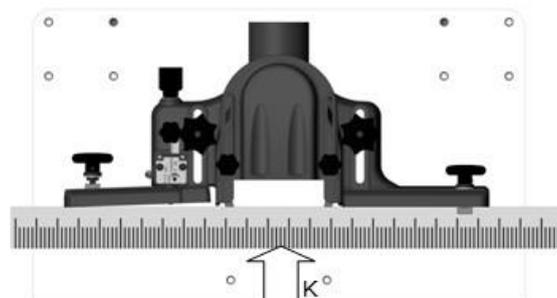

Fig.8
2. Unlock knobs D1, D2 and adjust the fence assembly (A) so it is positioned approximately at midpoint; then secure lock knobs D1, D2.
3. Place a straightedge (H) on the table against the infeed and outfeed fences (F1, F2).
4. Unlock the ram dial lock knob (B)
5. With the ram adjust dial (C) the adjust position of the outfeed fence (G2) while at the same time pressing against the straightedge (H) and attempting to bring both fences (G1, G2) in-line with the straightedge.
**No adjustment is required** if both fences (G1, G2) are flush with the straightedge as shown in Fig. 8. Proceed to the Ram Dial Calibration section on page 10.